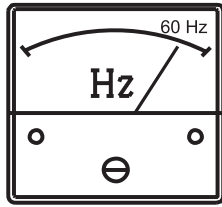

Figure 8. Frequency Meter
5. The generator's **frequency meter** (Figure 8) should be displaying the 60-cycle output frequency in **HERTZ**.